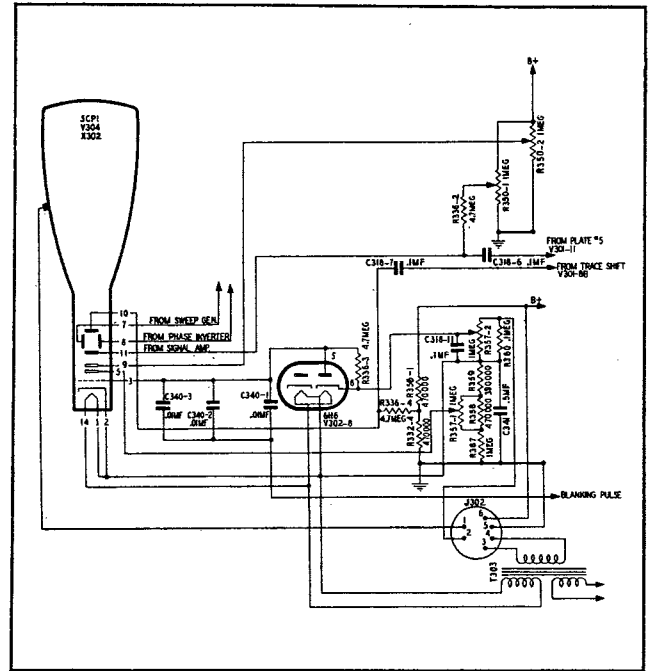

Figure 4-31. Cathode-Ray Tube Circuit
(15) CATHODE RAY FUNCTIONS.—The cathode ray tube, functional diagram shown in figure 4-31, provides the visual means for reading the time difference between the reception of the station pulses. The cathode (pin 2) is approximately 1000 volts negative with respect to chassis and is connected directly to its heater. The control or blanking grid (pin 3) is connected through R-336-3 to the moving arm of "INTENSITY" control R-357-2 by which the grid voltage, negative with respect to the cathode, may be adjusted.